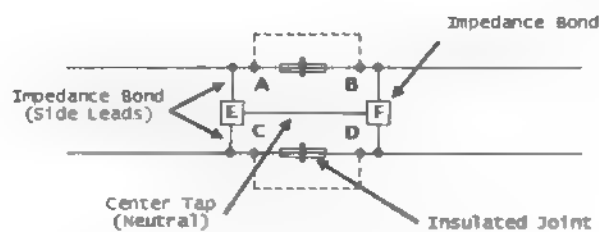

Figure 3 – BONDING
- 1.604** Method of applying temporary rail jumpers in electrified territory when impedance bond side leads are to be removed or when neutral of bonds are to be opened. (See Figure 3)